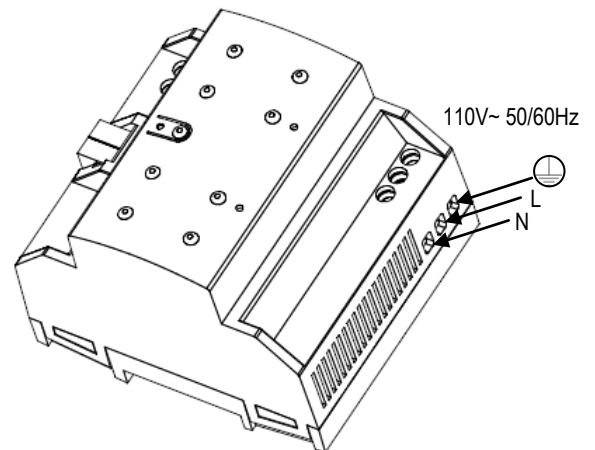

Figure 2: ZPS160MPA110 installation and connection
- Main power must be connected to L, N and ground terminals, in accordance with the schematic represented in figure 2.